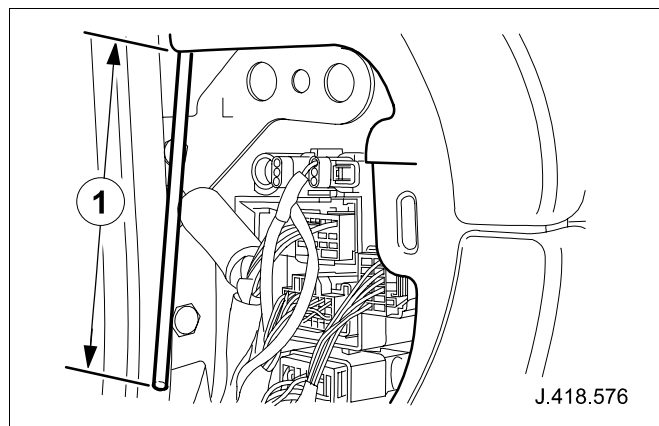

Fig. 20
- 57 Measure 250mm along new antenna lead from facia end aperture top front corner. (See Fig. 20)